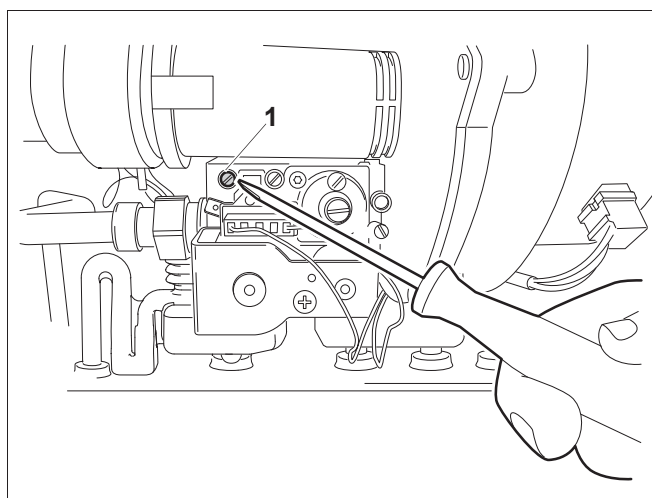

Fig. 33 Bleeding the gas supply conduit
- Loosen the screw plug on the testing nipple for the gas connection and venting (see fig. 33, pos. 1) by two turns and fit a hose.